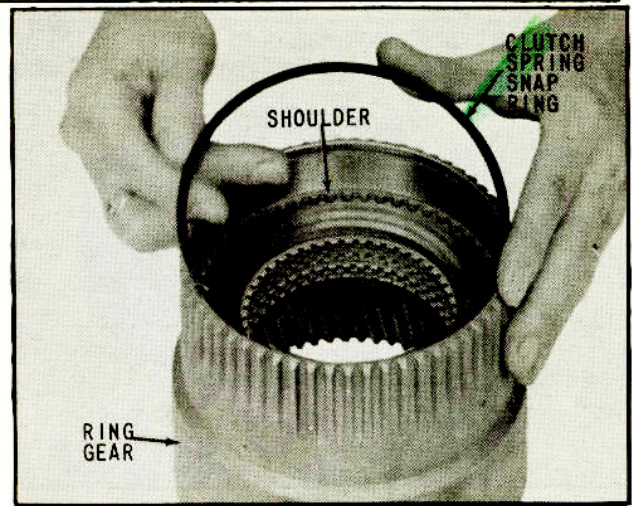

Fig. 32 Installing Clutch Spring Snap Ring
23. Install clutch spring snap ring (Fig. 32). This snap ring seats on the